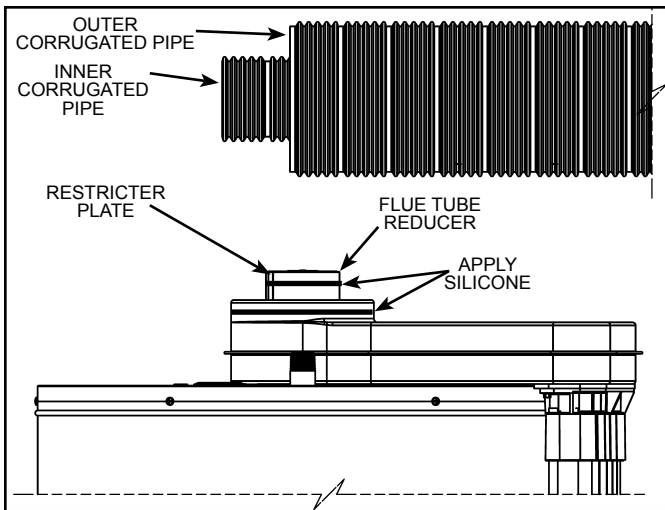

Figure 23
1. Pull the inner corrugated tube towards the water heater and leave some length over the water heater's center for bending (see Figure 23).